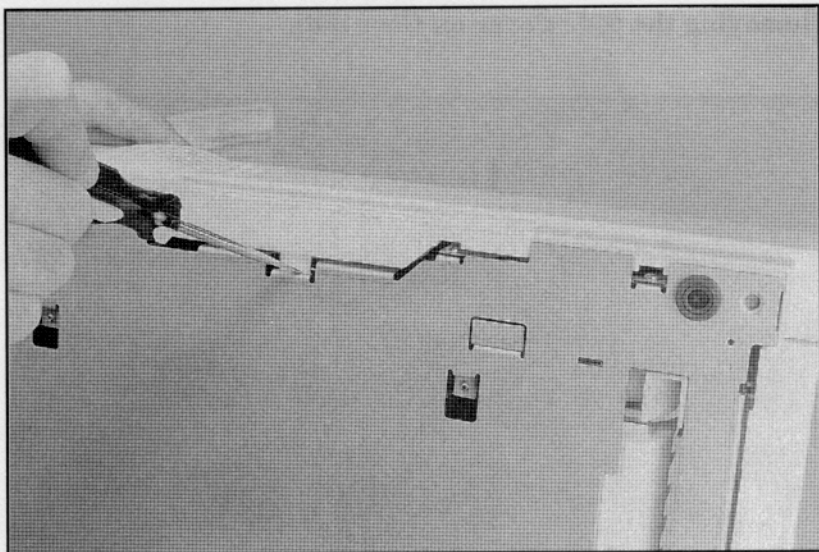

Figure A-8 Latch Location on Underside of Duplexer
- 3** Release the (1) latch point with a flat screwdriver and lift the cover off (see Figure A-8).